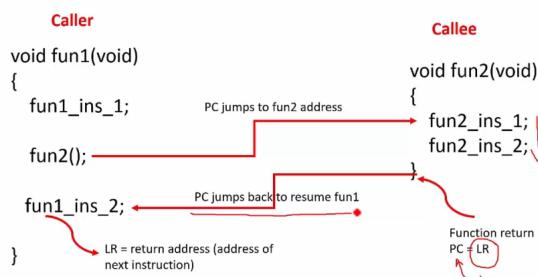

Figure 4.7: LR register flow
- LR: it stores the return address value from a function call, in order to return to the caller and continue the flow of the code. An example is shown in Figure 4.7.